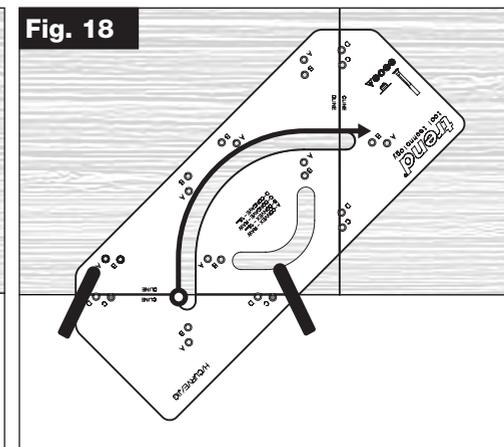

Fig. 19
- Using a jigsaw or plunge saw, remove the material as indicated (**Fig. 19**).